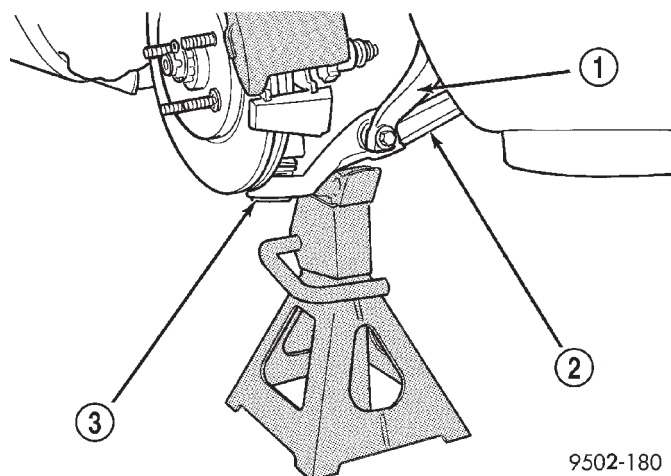

Fig. 53 Supporting Lower Control Arm With Jack Stand
CAUTION: When supporting lower control arm with jack stand, do not position jack stand under the ball joint cap on the lower control arm. Position in area of lower control arm shown in (Fig. 53).
(10) Lower vehicle to the ground with a jack stand positioned under the lower control arm (Fig. 53). Continue to lower vehicle so the total weight of the vehicle is supported by the jack stand and lower control arm.